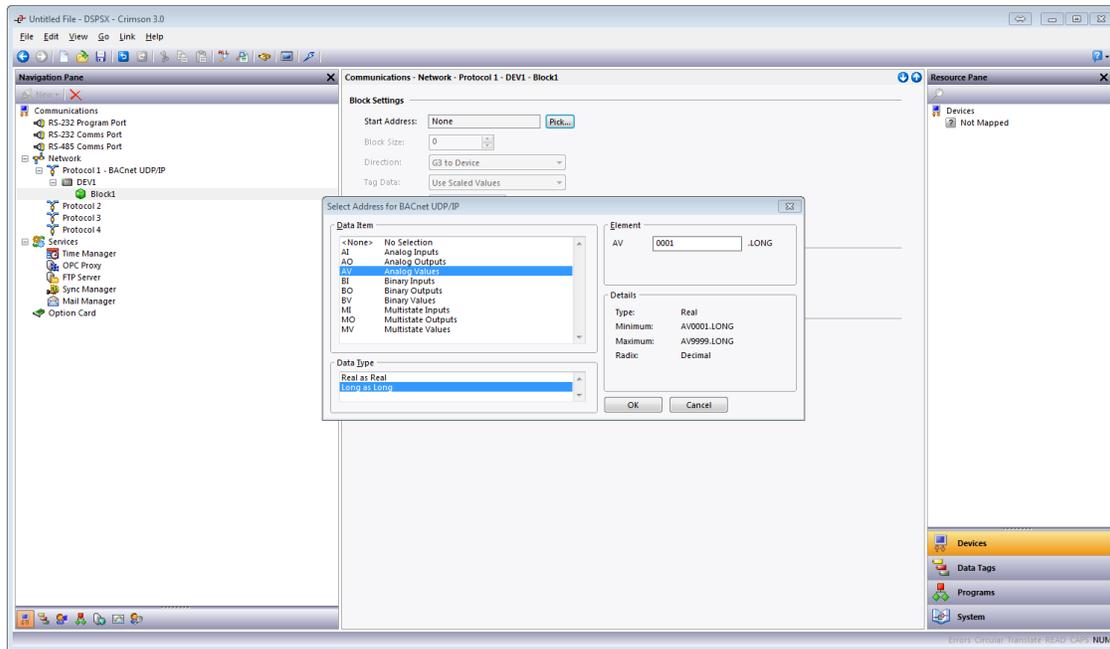

Figure 14.
8. Referring to Figure 14, click on the desired block; *Block 1* in this example.